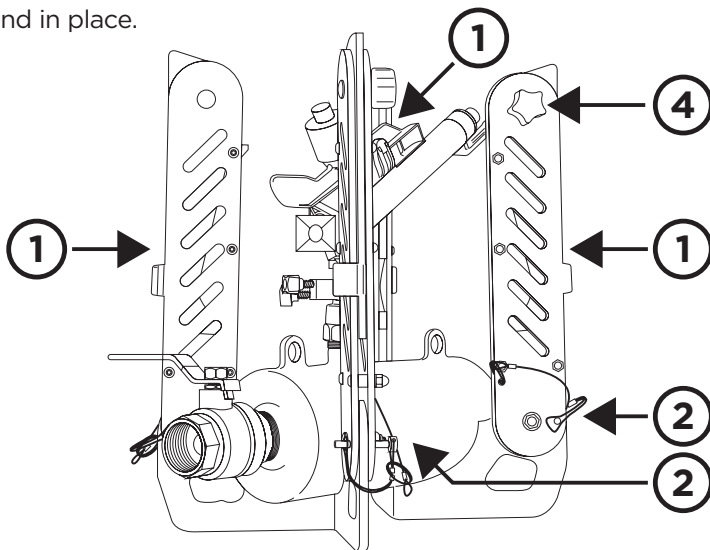

Figure 1.
- Place unit on ground and pull out extendable legs **1**, *Figure 1*. The FireBozz Mini offers one set up with the legs on a slight 5 degree angle to the ground.